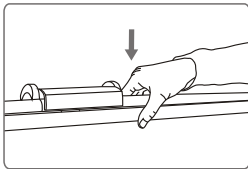

Figure 14
- a. Hold and push slightly fixed tube in the middle of position of tube untill loose from the semicircle tube. (Figure 14)